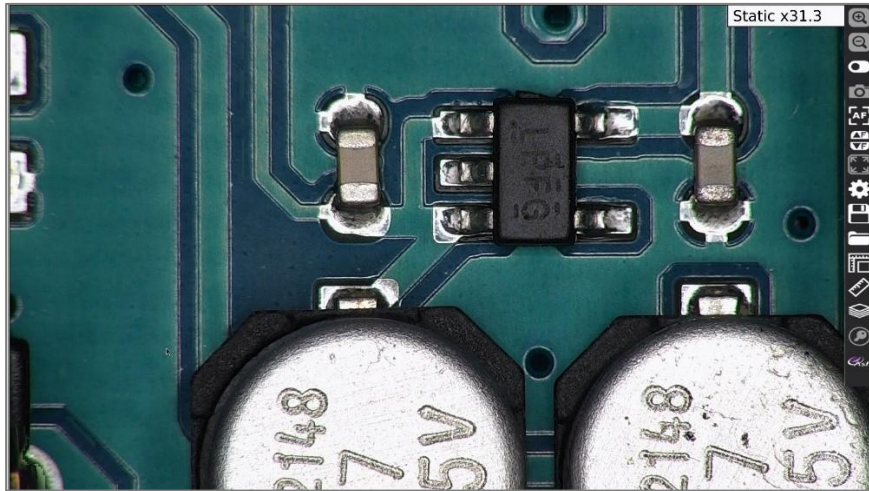

Fig. 21
4. When you are satisfied with the settings, click the **Start** button (D) and the Inspex 3 will start processing the image.
- 5. The processed image will now be displayed in static form with all components (heights) in-focus (Fig.21).